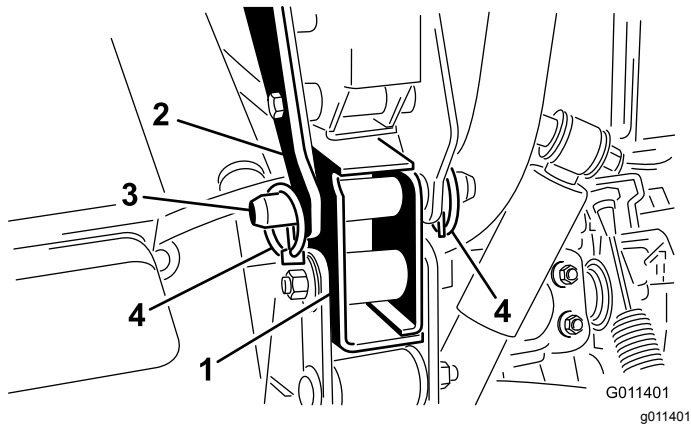

Figure 8
6. Secure each rear mounting bracket to the vehicle frame with a clevis pin and 2 lynch pins (Figure 8).